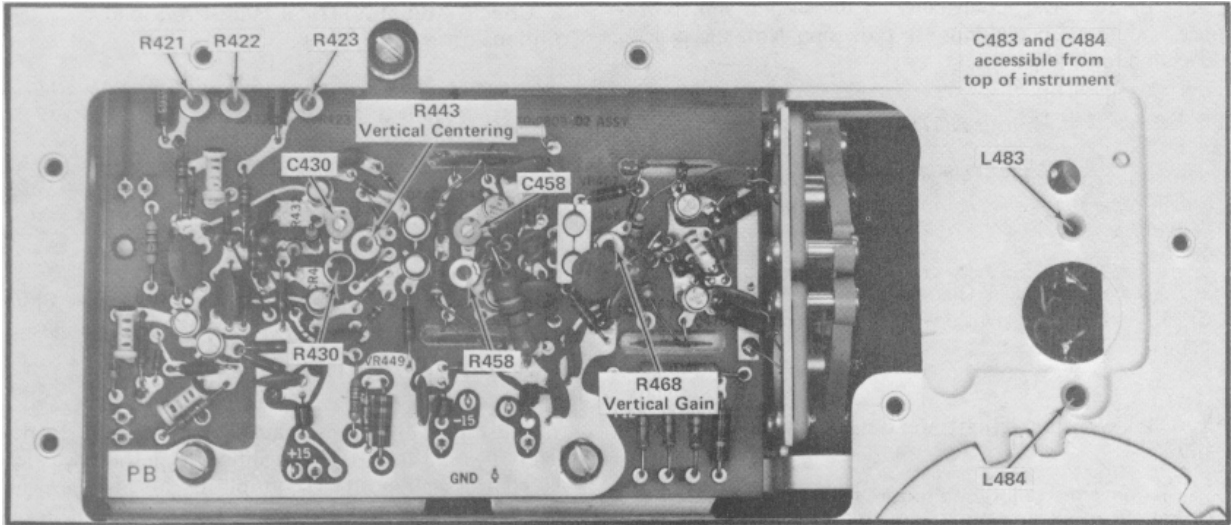
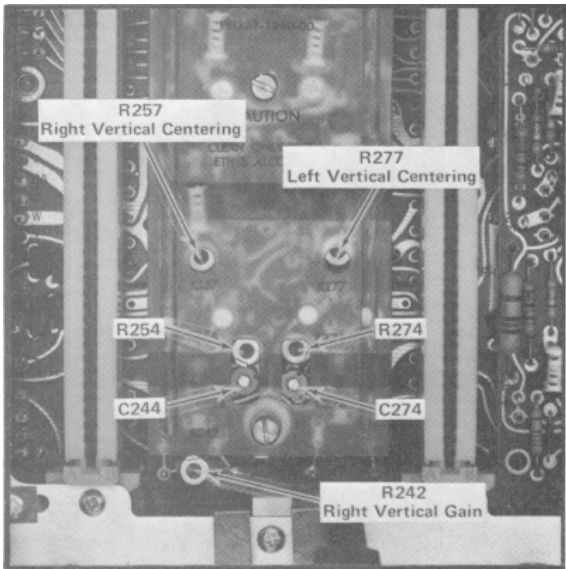

Fig. 5-5. Location of vertical adjustments (Vertical Output board; vertical-access plate removed).
Fig. 5-6. Location of vertical preamplifier adjustments (Vertical Interface board).
j. ADJUST-Vertical Centering adjustment R443 (see Fig. 5-5) for equal spacing of the displayed readout characters from the graticule center line. Adjust Right Vertical Centering adjustment R257 and Left Vertical Centering adjustment R277 (see Fig. 5-6) to position the alternating traces to the graticule center line.
- f. ADJUST-Right Vertical Centering adjustment R257 and Left Vertical Centering adjustment R277 (see Fig.5-6) to position the alternating traces to the center horizontal line.
- i. ADJUST-Note the distance the trace is displaced from the center horizontal line. Then, adjust the Vertical Centering adjustment R443 (see Fig. 5-5) to position the trace away from the center horizontal line by twice the distance noted prior to adjustment (e.g., if the trace was 0.1 division below the center horizontal line, adjust R443 to move the trace so it is 0.2 division below the center horizontal line)
e. ADJUST-Vertical Gain adjustment R468 (see Fig. 5-5) for exactly six divisions of deflection between the second and sixth traces.
d. ADJUST-Right Vertical Gain adjustment R242 (see Fig. 5-6) for exactly six divisions of deflection between the second and sixth traces.
f. ADJUST-High-frequency compensation as given in Table 5-2 for optimum square leading corner and flat top with minimum aberrations within limits given in part e. Location of adjustments is shown in Fig. 5-5. Use the low-capacitance screwdriver to adjust the variable capacitors, and the tuning tool to adjust the variable inductors. Make these adjustments with the vertical-access plate covering as much of the Vertical Output board as possible. Repeat the complete adjustment procedure several times to obtain optimum adjustment; then, replace the vertical-access plate and check the final result.
j. ADJUST-C244 and R254 (see Fig. 5-6) for optimum square leading corner and flat top with minimum aberrations within limits given in part i.